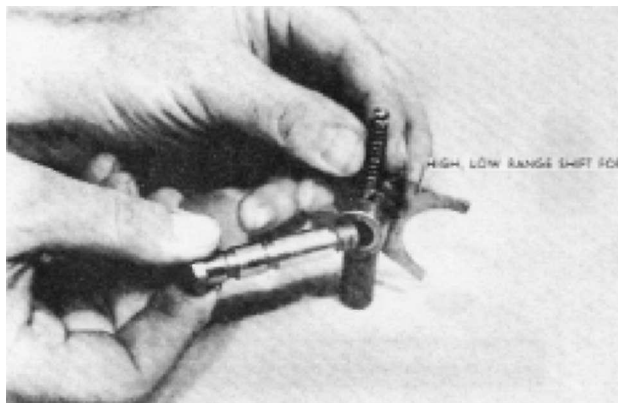

FIGURE 10
3. Assemble the high and low range shift fork assembly (Figure 10) by inserting the spring and ball in the detent hole. Using a 3/16" punch, press on the ball, compressing the spring. At the same time insert the detent bolt, withdrawing the punch as the bolt slides in place.